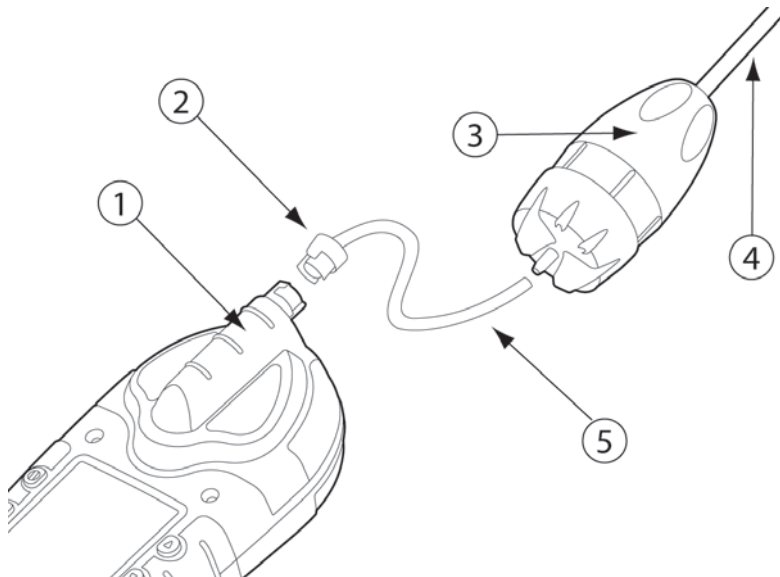

Figure 7. Attaching the Sample Probe
2. Make all of the required connections as illustrated in Figure 7.
To insert the MMC card into the detector, refer to Table 15, Figure 7, and the following procedures.